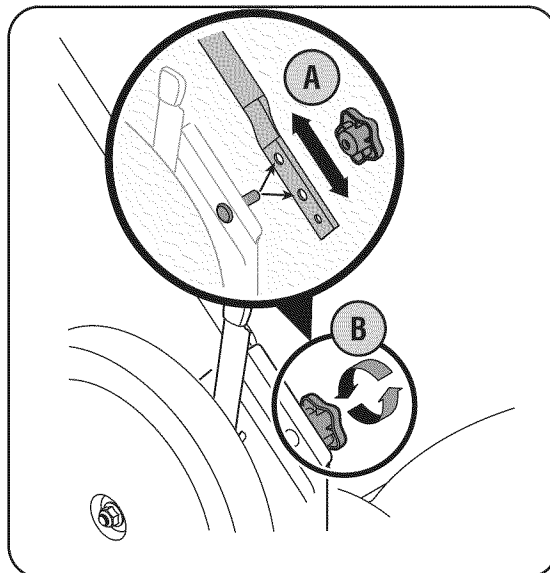

Figure 3-3
3. If satisfied with height of handle, tighten star knobs at the ends of the lower handle shown in Figure 3-3. For convenience of operating, you may adjust the handle height by removing the star knobs and removing the lower handle.
- a. Position each handle bracket stud into the top hole in the lower handle. See Figure 3-3 inset.